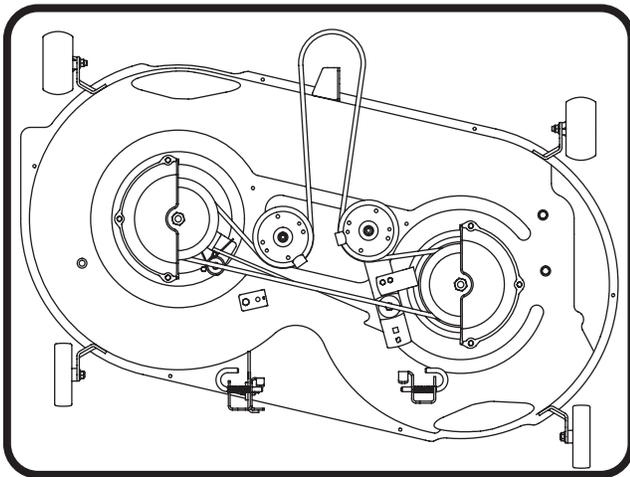

Figure 8.20
- For a 42" staggered "S" deck. See Figure 8.20.